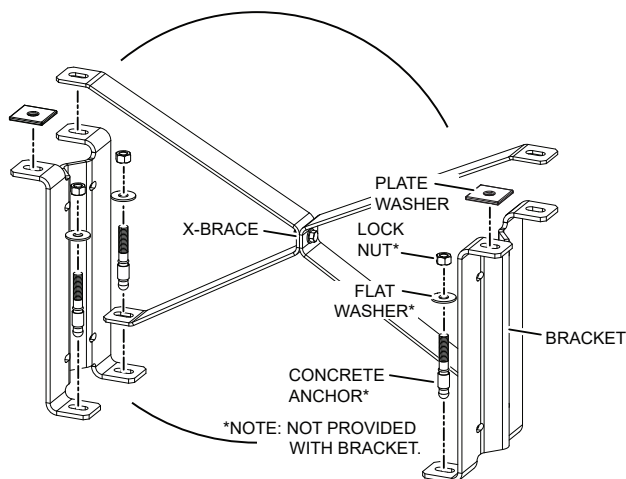

Figure 3. Securing X-Brace and Base Riser
2. Align and place X-Brace on brackets. See Figure 3.
3. Align and place plate washers on the remaining two bracket mounting locations. See Figure 3.
4. Secure brackets to the pad mounting foundation using concrete anchors and fastening hardware (not included). See Figure 3.